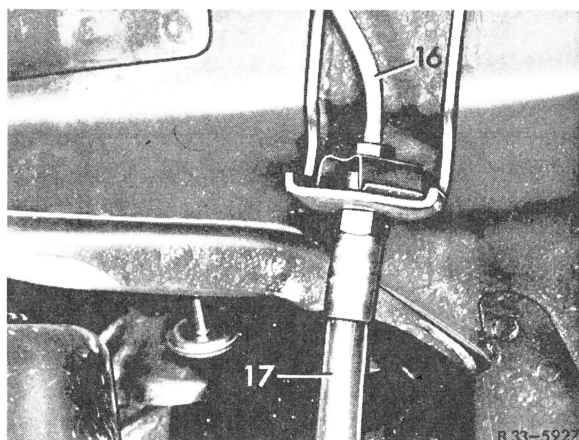

Fig. 3
- 5 Separate brake line and brake hose from each other. Close connections with rubber plugs (Fig. 3).